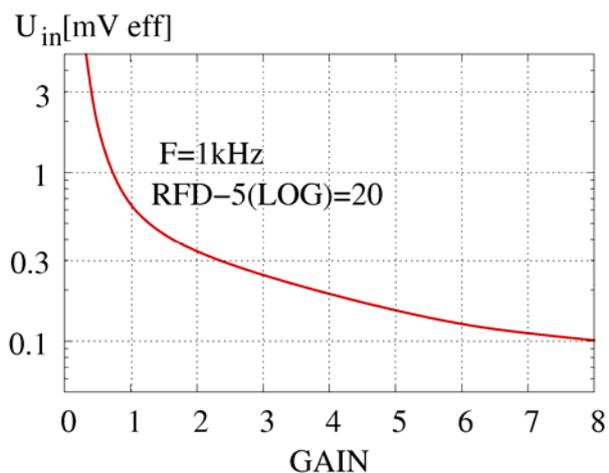
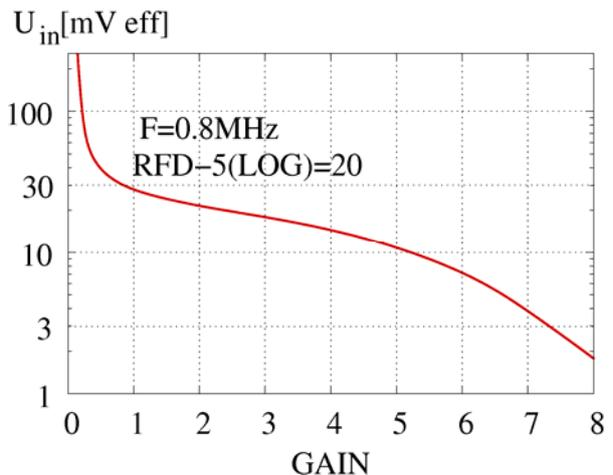
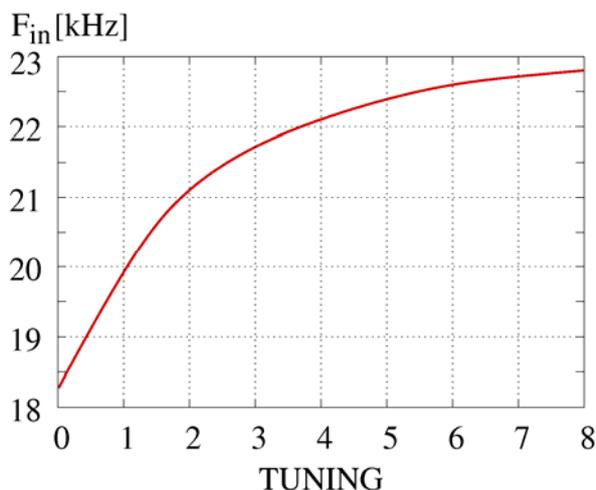
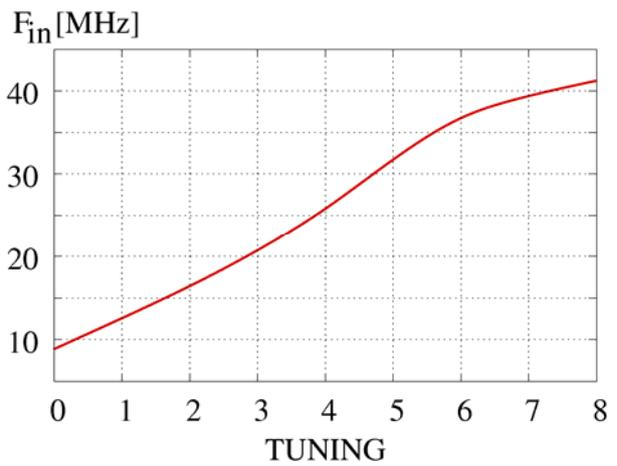

Fig.1 Sensitivity in AUDIO mode
Fig.2 Sensitivity in RF detection mode
Fig.3 Tuning curve 18 – 22kHz
Fig.10 Tuning curve 9 – 41MHz
- 1 - GAIN: sensitivity control (Fig.1 and Fig.2)
- 2 - TUNING: frequency tuning (tuning curves are at Fig.3 to Fig.10)
Set the main switch to AUD (audio). The knob TUNING has in the AUD mode no function. The GAIN knob controls sensitivity of the audio amplifier (see Fig.1). The values correspond to the RFD-5 display reading = 20 in LOG (logarithmic) detection mode for input audio frequency 1kHz. If an asymmetric object is measured (e.g. wire testing against ground level) connect the green banana plug to zero (ground) potential. To the symmetric line the red and green banana plugs can be connected in any order, but it is very important to disconnect the charger and it is better not to hold the RFD-5 in the hand to eliminate the asymmetric spurious capacity to the ground to minimum. To check the telephone lines use the LTA-INT-RJ board. Disconnect the communication device (phone, fax, modem, etc.) from the telephone outlet and connect there the connecting RJ cable leading to one of the RJ plugs on the LTA-INT-RJ board. Connect the tested device to the second RJ plug of the LTA-INT-RJ board. The active line is usually on pins 3 – 4, but during the comprehensive security check all wires and their combinations should be tested. According to the local situation other measurement equipment like voltmeter, oscilloscope, spectrum analyzer, etc., can be connected to the LTA-INT-RJ plugs or the probes of such devices can be connected to plug's lead-in wires. Listen to the RFD-5 earphone if any sound from the swept area is not leaking. The analog phone lines are heard very strongly if the phone is off the hook. A hung up phone must not transfer any sound.
The dependence of the RF sensitivity on setting of the GAIN knob for RFD-5(LOG) indication = 20 is shown on Fig. 2 (measured at 0,8MHz). The received frequency in dependence on the TUNING knob settings at specific frequency sectors is shown in Fig.3 to Fig.10.